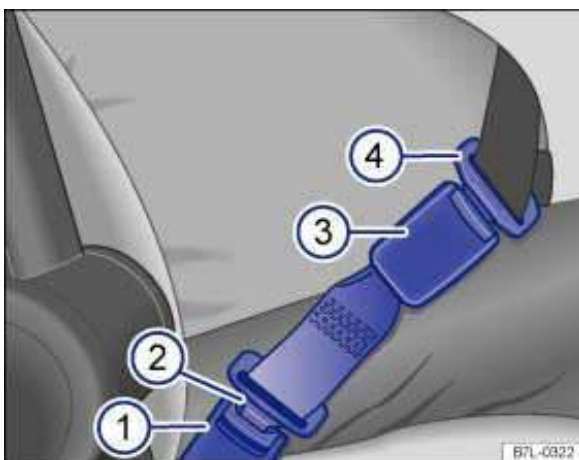

Fig. 60 A safety belt extender properly attached to the factory-installed safety belt.
Key to fig. 60:
- Insert the buckle tongue on the safety belt extender ⇒ fig. 60 \(2\) into the vehicle belt buckle for the seat where the safety belt extender is being used \(1\).